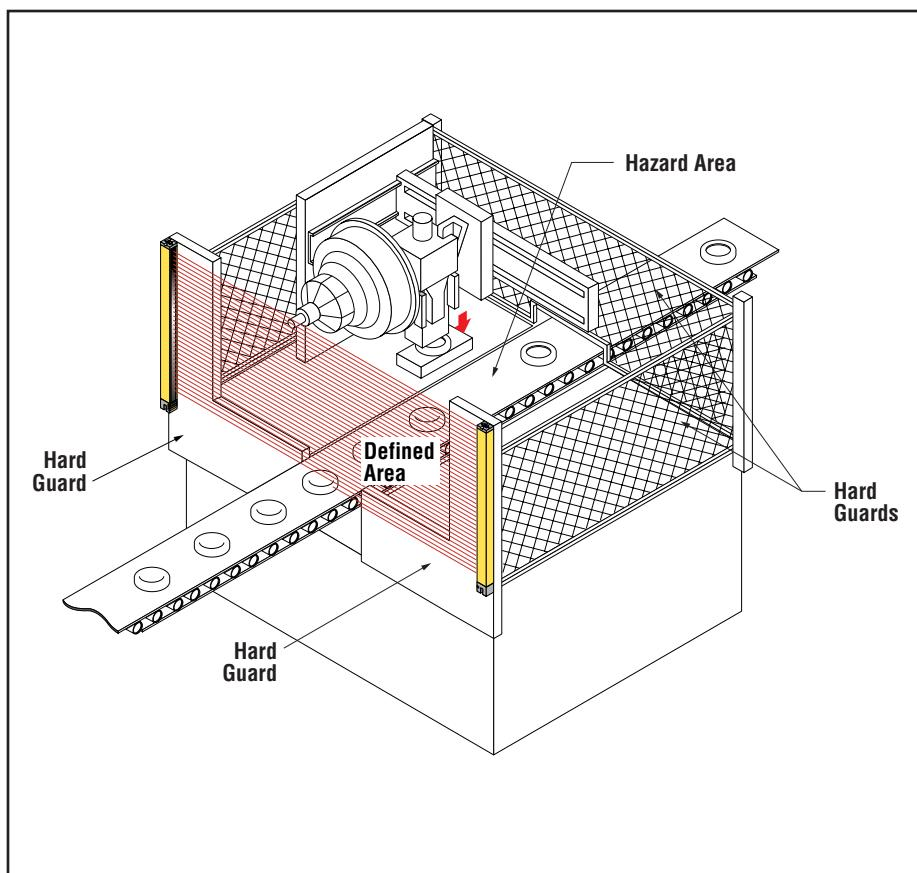

Figure 8. Example of hard guarding
ANSI B11.1-1988, 6.3.2 (14) requires that "all areas of entry to the point of operation not protected by the presence-sensing device shall be otherwise safeguarded." The hazard point must be accessible *only* through the defined area. This means that mechanical barriers (screens, bars, etc.), or supplemental presence sensing devices (*supplemental guarding*) must be installed, wherever needed, to prevent any person from reaching around, under, or over the defined area and into the hazard point, and to prevent any person from standing between the defined area and the hazard point (see OSHA 1910.212). The use of mechanical barriers for this purpose is called "hard guarding" (see the WARNING at left and Figure 8, below).